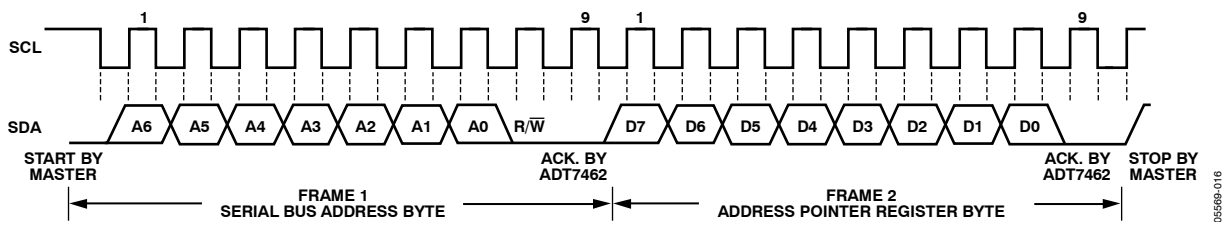

Figure 26. Writing to the Address Pointer Register Only
- If the ADT7462 address pointer register value is unknown or not the desired value, it must be set to the correct value before data can be read from the desired data register. This is done by performing a write to the ADT7462 as before, but only the data byte containing the register address is sent because no data is written to the register (see Figure 26).